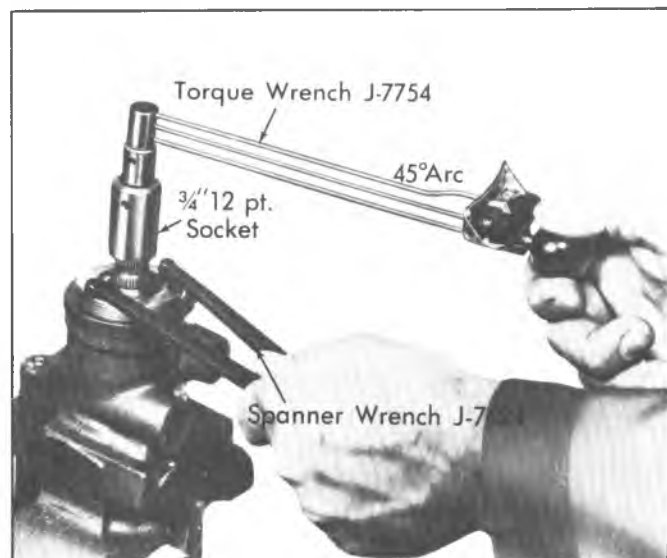

Fig. 59-Adjusting Thrust Bearing Preload
4. Adjust the thrust bearing preload (Fig. 59) as follows: